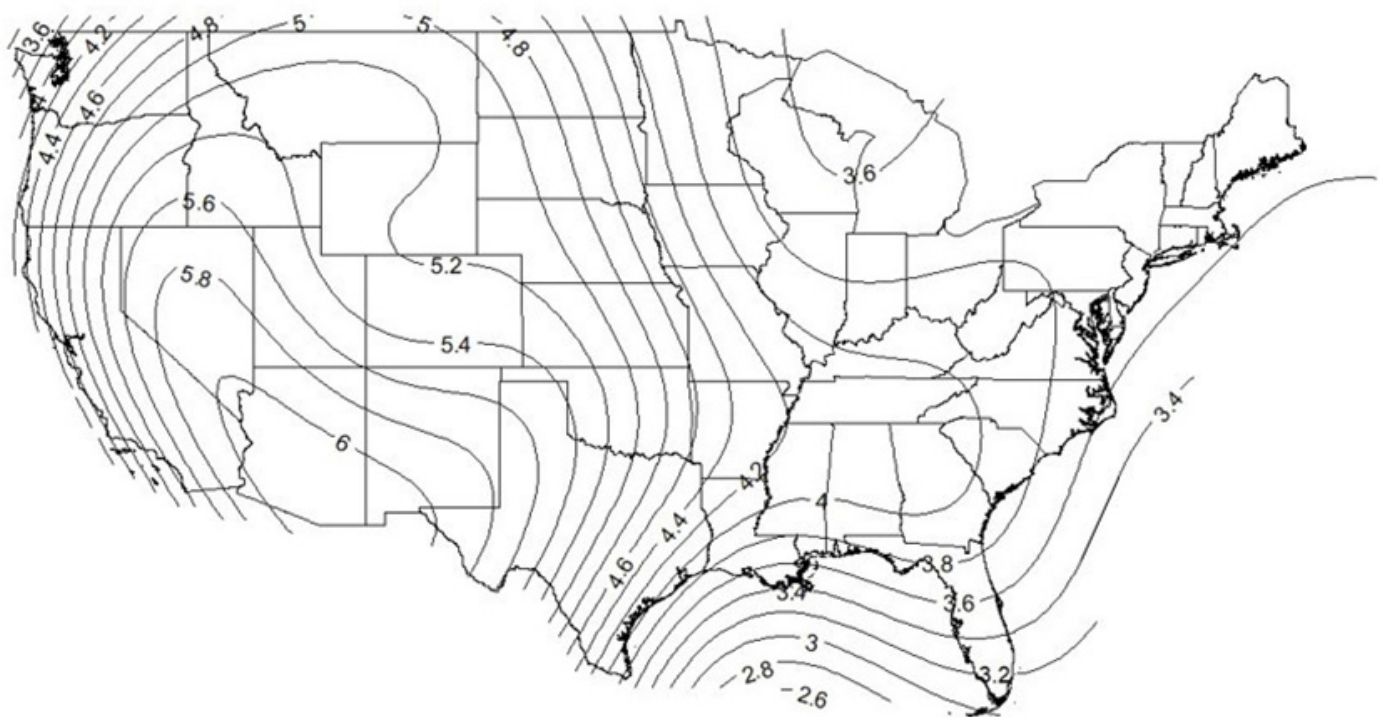

Figure 3. Amount of water evaporated (gpm per 100,000 cfm of air flow) from a 6-inch pad assuming 75 percent saturation efficiency.
Figure 3 represents the peak evaporative make-up water needs expected for a 6-inch pad system operating continuously in the hottest of weather design conditions. Make-up water requirements are presented as flow rate (gpm) of water per 100,000 cfm of airflow during tunnel ventilation. Values from the maps can be scaled up or down with ventilation rate to predict changes
The make-up water rates in Figure 3 and the examples below do not include continuous bleed-off that is recommended to flush the buildup of minerals and other contaminants in the EC system. If you have a program or your system is set to continuously bleed off, you should add that flow rate to the evaporative rates to obtain your total system make-up needs.
Example calculations using Figure 3
make-up water (gpm) = [(tunnel ventilation capacity (cfm) / (100,000 cfm)] × value from Figure 3 nearest your location (gpm)
*These values are from Figure 3 for each geographical location.